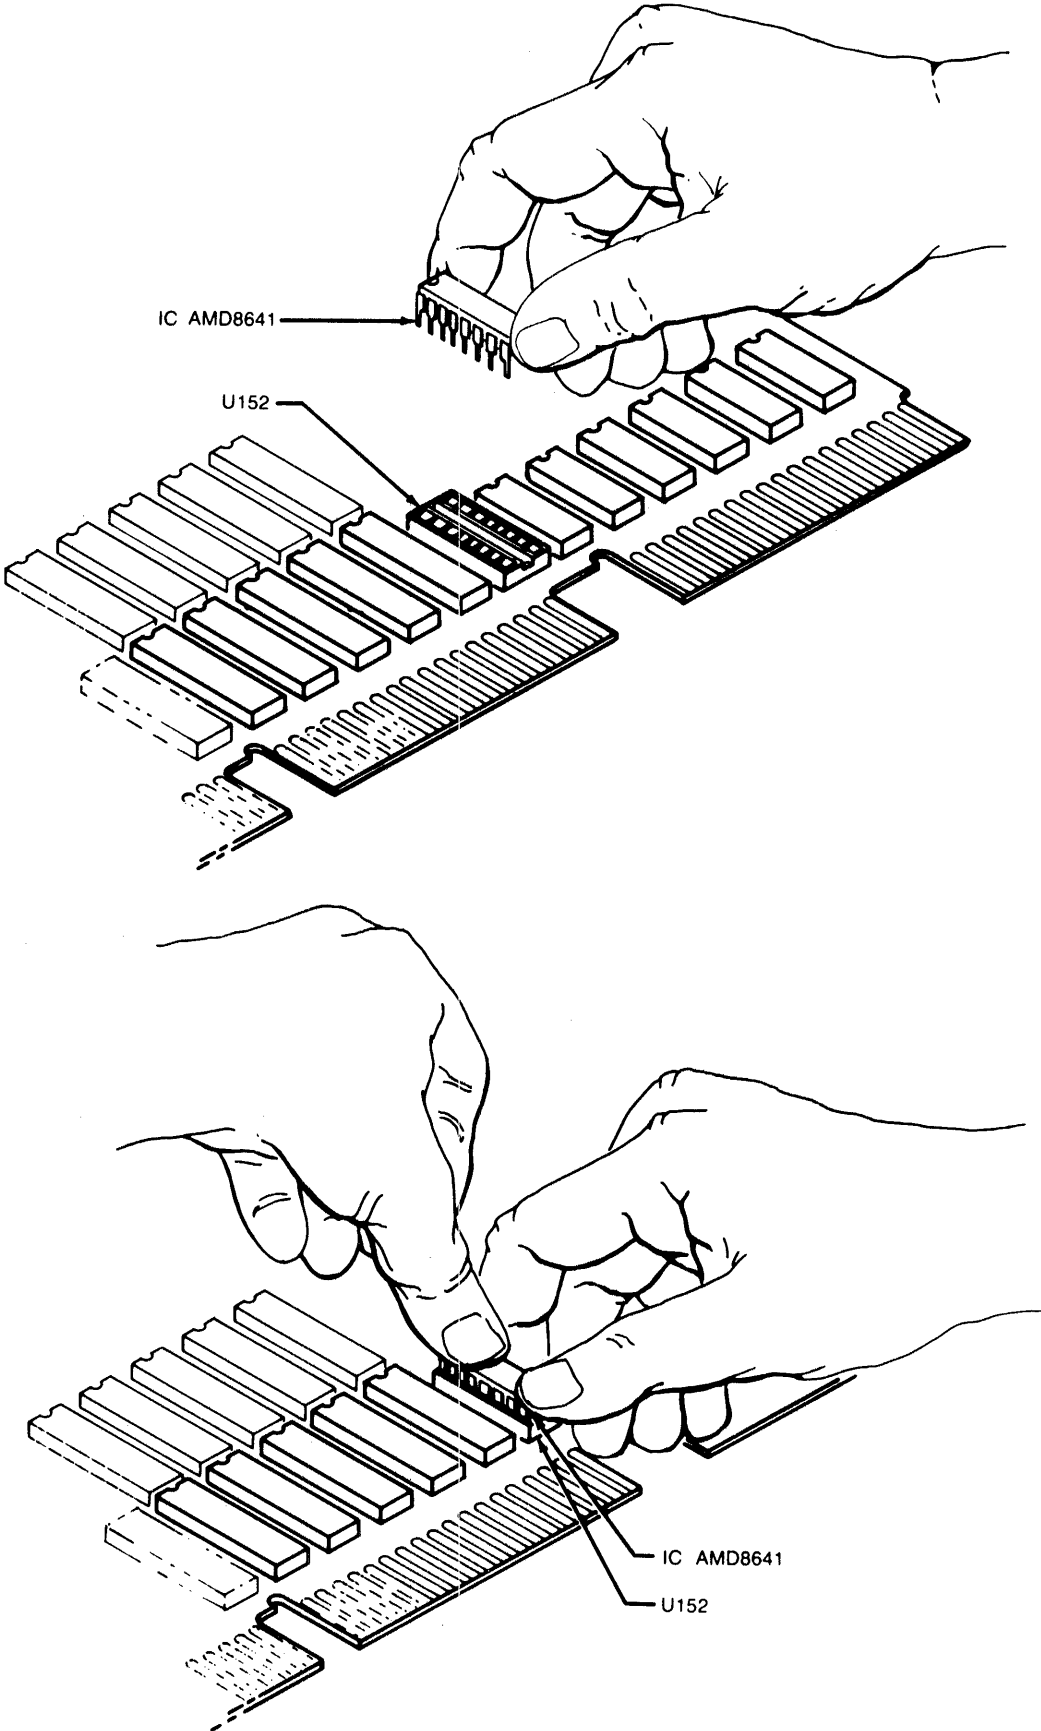

Figure 3-4. Installing 22-Bit Addressing IC
To enable 22-bit memory addressing, see Figure 3-4 and use the following procedure:
3. Find IC socket U152 on the UC03 (see Figure 3-4).
5. Position the IC so that the pins can be inserted in the empty IC socket as shown in the top of Figure 3-4.
6. Place your thumbs on the IC as shown in the bottom of Figure 3-4. Press down on top of the IC until the IC is secured in the socket.